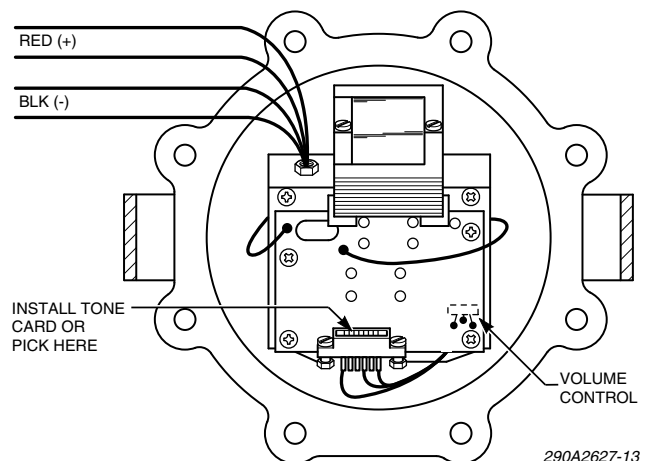

Figure 2: Tone/connector card installation location
1. Plug the desired tone card (purchased separately) into the socket as shown in figure 2.
1. Plug the desired PTCK connector card (purchased separately) into the socket as shown in figure 2.
After installation is complete, be sure to test the system to verify that each amplified speaker operates satisfactorily. If it is found that the unit is too loud for its location, an internal volume control can be adjusted. Remove the housing cover and insert a slotted screwdriver with an 1/8" blade into the hole shown in figure 2. Gently turn control to desired loudness. Reinstall the housing cover.